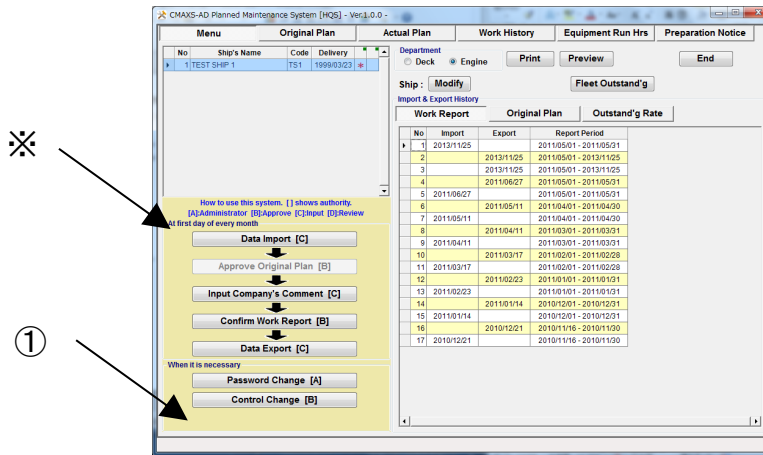

Fig.13-1 Menu Screen
(1) Select [Control Change] button on the "PMS Initial Screen"(Fig.13-1).